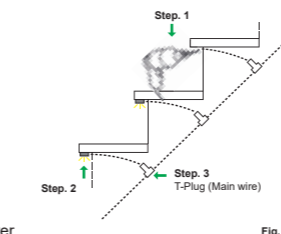

Fig. 2
3. Connect all cables at the back of the stairs to the T-connector of the main line. Pay attention to the cable markings (See fig. 2).